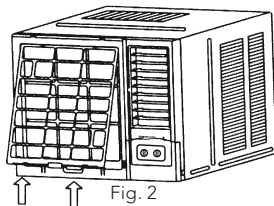

Fig. 2
- 2 For your safety and protection, this unit is earthed through the power cord (see Fig.2)
- 2 Pinch the handle under the air filter and make the air filter arched, remove it from the slot from underside to upside (See Fig.2).
- 1 Install the air filter into the frame's slot from upside to underside. (see Fig.2)